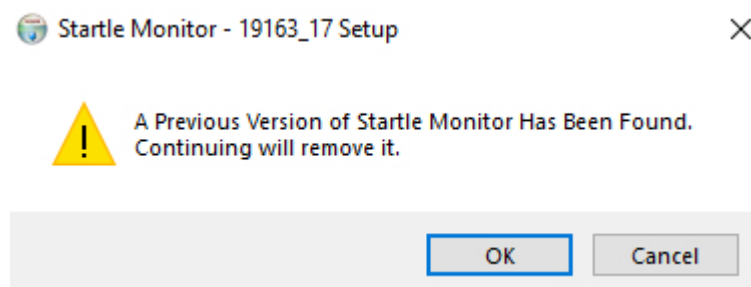

Figure 12 Upgrading Build Message
- If you are upgrading from an earlier ***StartleMonitor*** software build, the software will give you the following message (Figure 12):